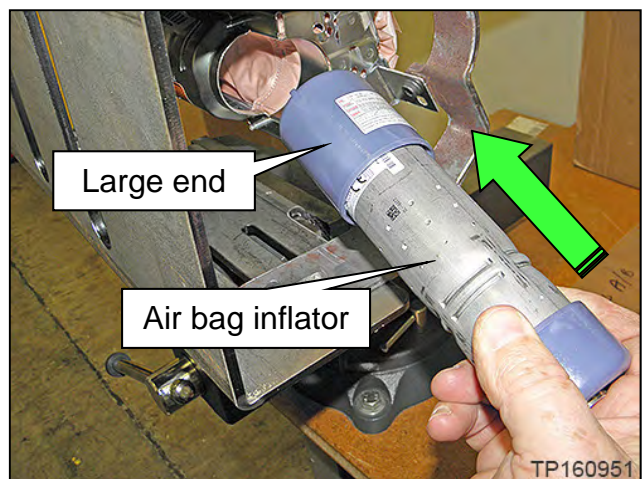

Figure 35
33. Remove the new air bag inflator from the box, and then install it into the air bag module, as show in Figure 35.